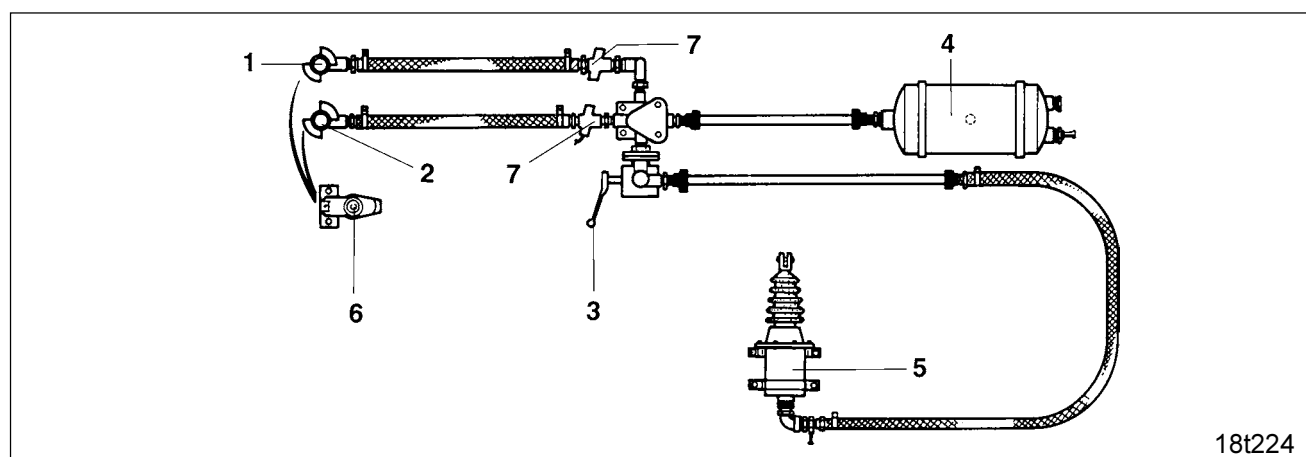

Fig. 40.7
The following checking, maintenance and servicing list is effective. The components of the air brake on your machine might differ from illustration Fig. 40.7. In case of queries, please ask an authorised workshop or the manufacturer of the air brake or his distribution network.
2. Before coupling check whether the coupling heads are clean and observe proper fitting. The coupling head (Fig. 40.7/1) for the brake line is marked in yellow. The coupling head (Fig. 40.7/2) for the supply line is marked in red.
4. Check hand brake position of braking power governor (Fig. 40.7/3).
5. If necessary drain water from air tank (Fig. 40.7/4).
7. Check the stroke of the braking ram pistons. When reaching 2/3 of the total ram piston stroke (Fig. 40.7/5) readjust wheel brake. Replace damaged bellows.
8. After coupling off, shut the coupling heads or hang them into the dead couplings (Fig. 40.7/6) on your implement.
1. Check and clean the inserts of the tube filters (Fig. 40.7/7).